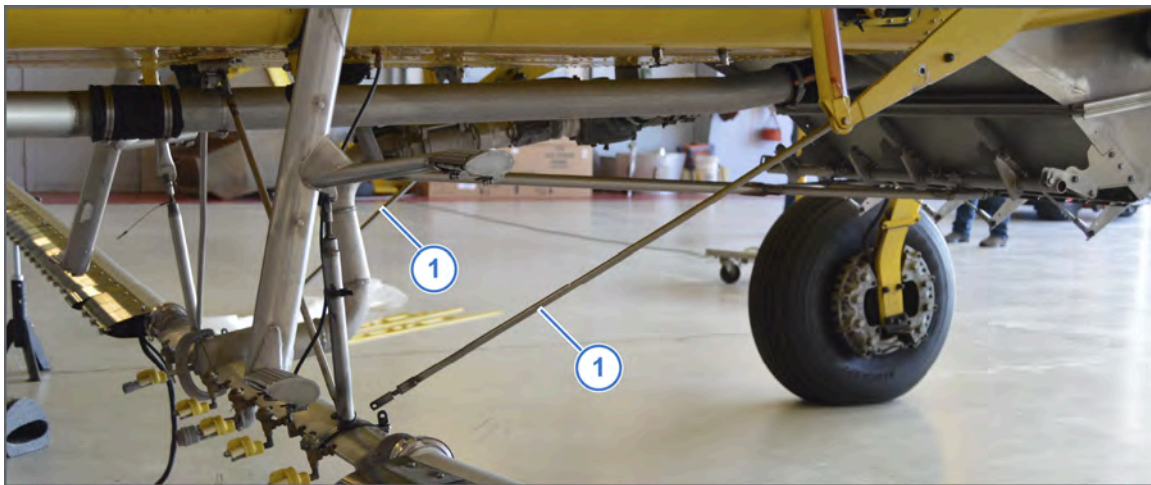

Figure 17: Forward-facing Support Tubes
- 35.** Attach the forward facing support tubes (Figure 17, Item 1) on the center boom.